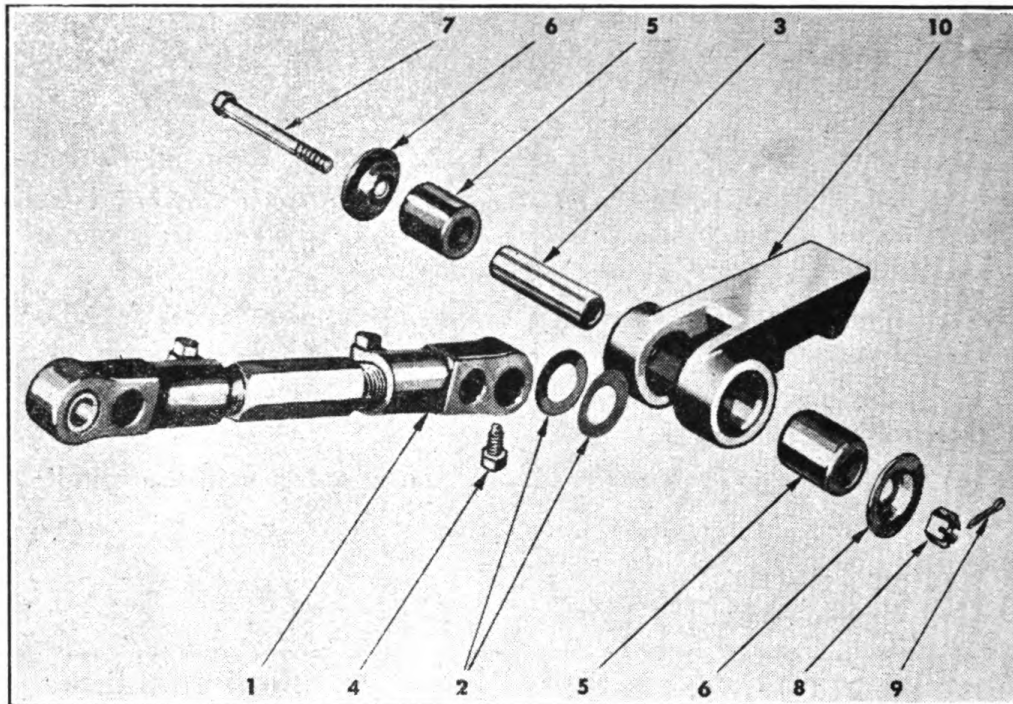

FIGURE 70. RADIUS ROD—EXPLODED.
(2) **Replacement** (Fig. 70).—(a) **NOTE:** One end of radius rod has spindle lock screw hole in the end. The other end has lock screw hole at the bottom. Place radius rod in position with the end hole to front in the spring hanger. The other end, which fits into bracket at axle, should be down. Axle end of radius rod is more difficult to connect, therefore it should be coupled first.